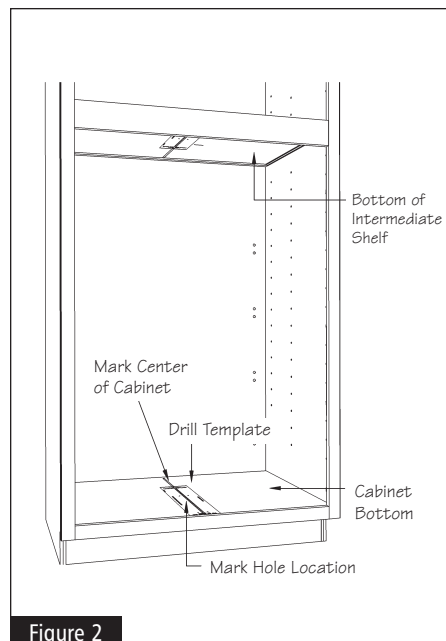

Figure 2
- 4** With a center punch (awl), mark the center locations of the holes for the mounting of the bottom socket. Repeat this step for the top socket on the bottom of the intermediate shelf. See Figure 2.